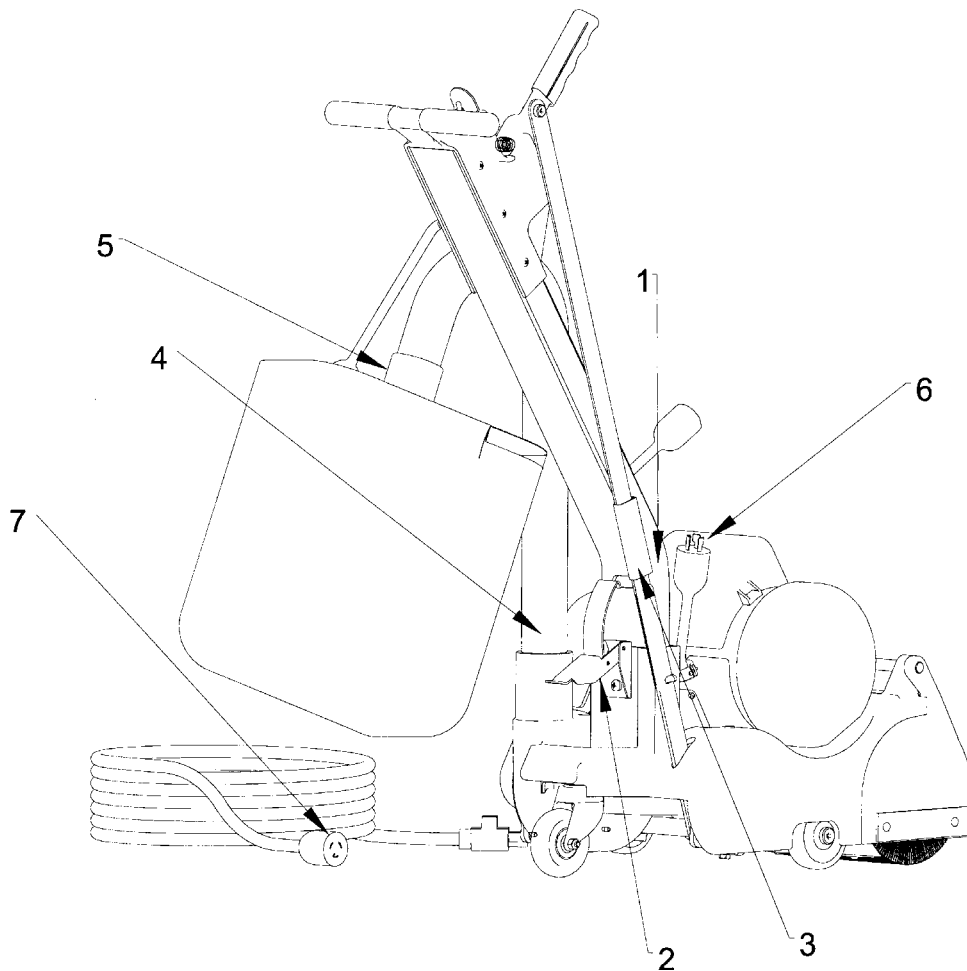

Figure 1
1. To transport the machine, remove the handle, dust pipe and bag. Follow steps in figure 1.
To set up the machine follow the steps called out in figure 1: